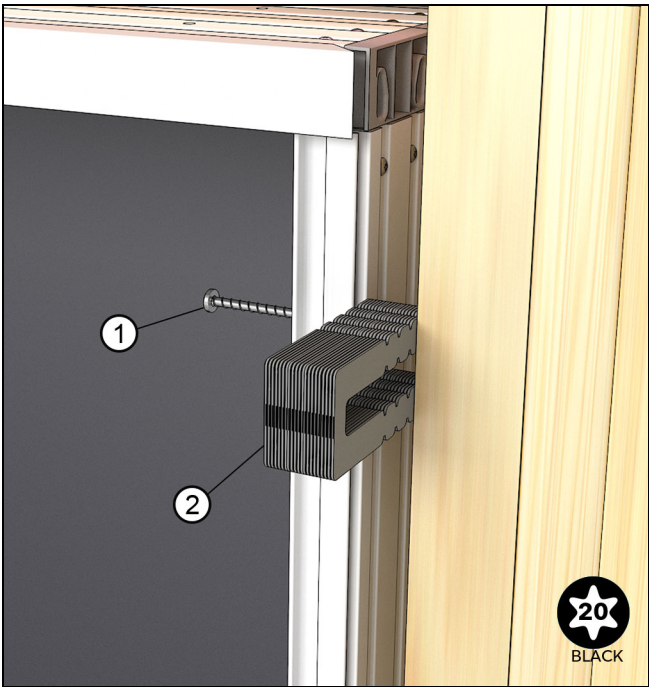

Figure 64
2. Apply shims and adjust, then fasten through the pocket jamb side near the top with a #10 x 3" (76) Torx (T20) screw provided. See Figure 64.